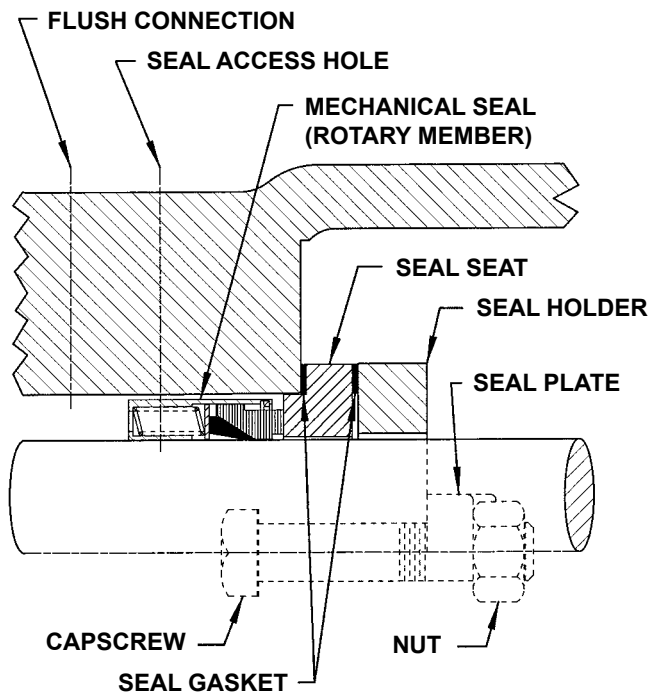

FIGURE 10
3. PTFE Wedge (**Figure 10, page 7**)
5. Move rotary member so set screws are directly below seal access holes on side of bracket (See Figure 9, page 7 and Figure 10). Tighten all setscrews securely to shaft.